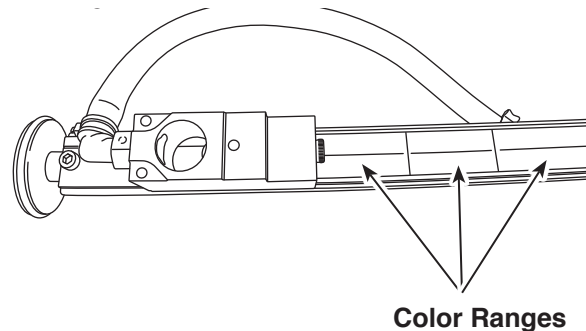

Figure 17
1. There are color ranges on the nozzle arm. See Figure 17. Determine the color range where the nozzle is resting under the nozzle arm. Set the selector switch on the control panel at the same color.